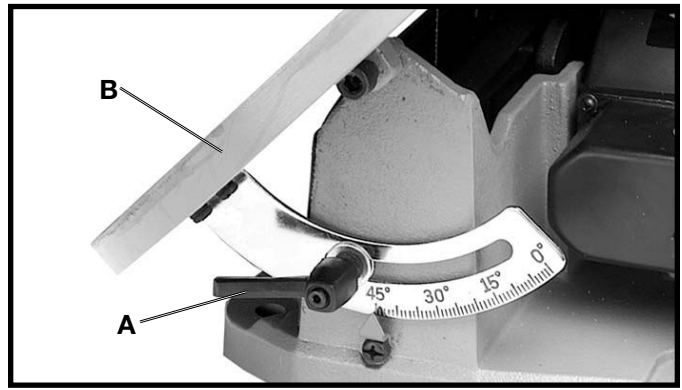

Fig. 20
The table (A) Fig. 20, on your scroll saw can be tilted up to 45 degrees to the left for bevel cutting operations.
2. Loosen table lock handle (A) Fig. 20. Tilt table (B) Fig. 20, to the desired angle and tighten lock handle (A). **NOTE:** Table lock handle (A) Fig. 20, is spring-loaded and can be repositioned by pulling outward on handle (A) and repositioning hub of handle on the nut located underneath the hub.